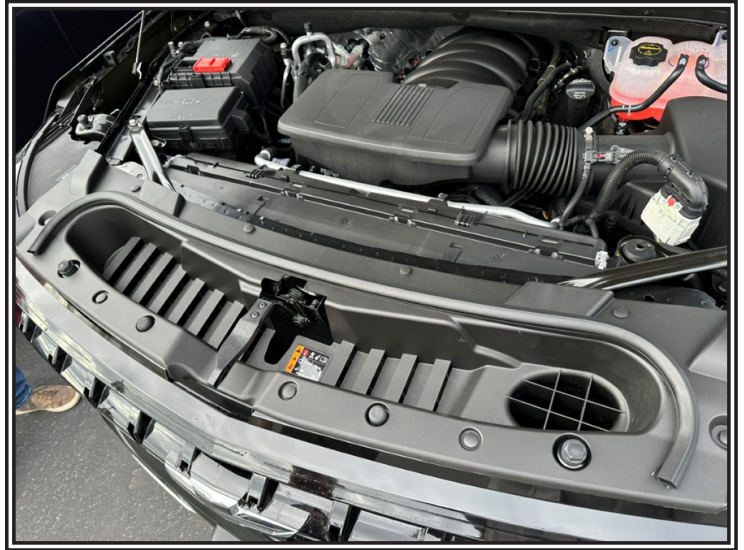

Figure 1
1. Consult the factory service manual to remove the top fascia support from the vehicle. See Figure 1.